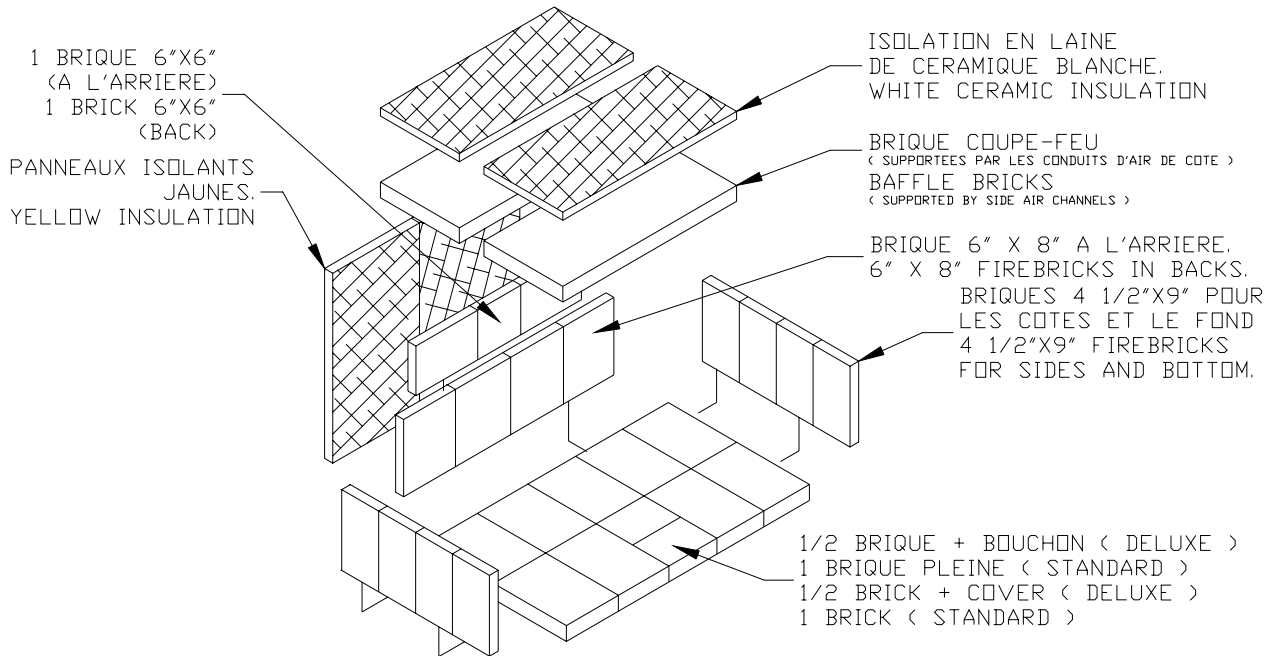

**Figure 4: SIBERIAN-1600 Refractory Bricks Assembly**
- Refractory bricks are to be installed according to figure 4.
- The upper bricks (2) must lay on the vertical bricks (4) groove